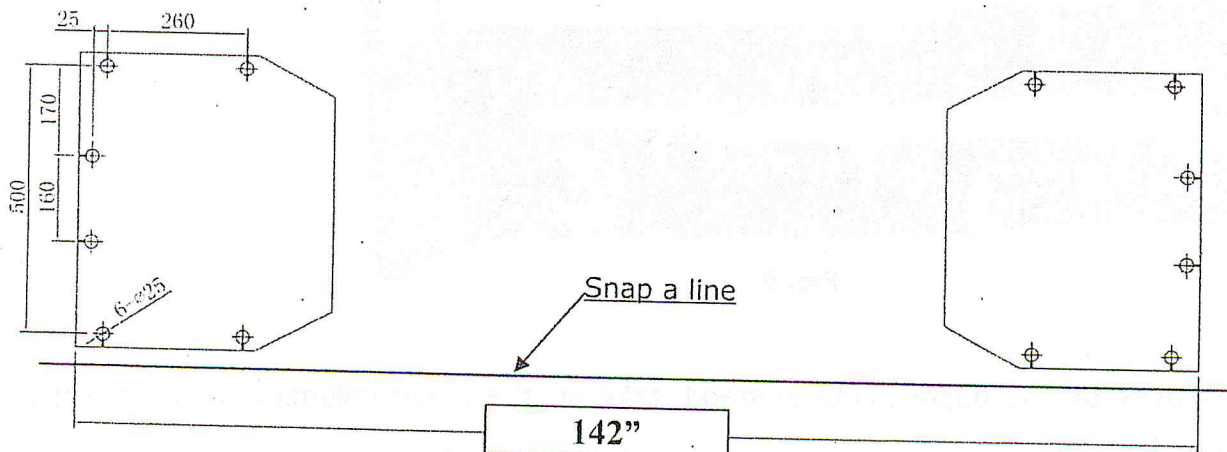

Fig. 5
B. Use a carpenter's chalk line to establish installation layout of the base plate (See Fig. 5).